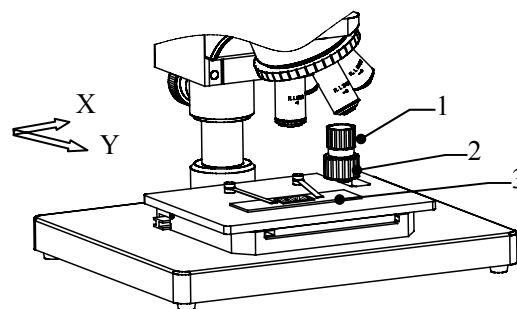

Fig.12
Place the metallurgical specimen or sample 3 on the stage and press with two spring clips. Turn the control knob 2 and 1 to adjust the stage longitudinal (Y) and transverse (X) movement, make the specimen or sample observation area located down the objective, as shown in Fig. 12.
The knob 2 control longitudinal movement, the knob 1 control transverse movement. The stage mobile range is 35mmX30mm for X and Y. As shown fig.12.